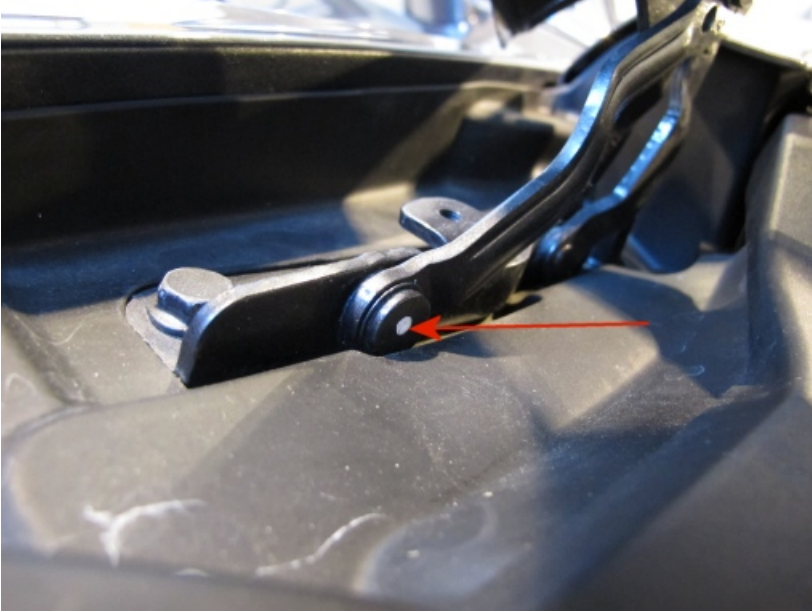

Figure 8
If the vehicle is not already listed as repaired in the "Repair history" (in Elsa Pro) check the bonnet hinge for the white completion mark (see Figure 8), if it is evident that the campaign has not been applied carry out the required work in accordance within these instructions.
- Once complete, place a white paint completion mark on the right hand bonnet hinge (see Figure 8).
White paint completion mark on the right hand bonnet hinge (see Figure 8).